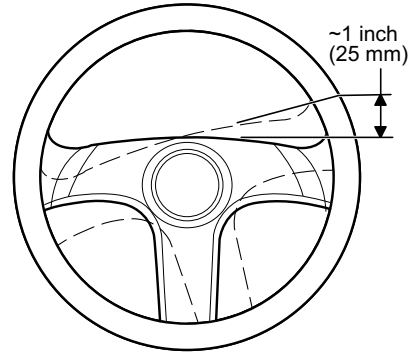

Fig. 32 Steering Wheel Play
1. Remove the nuts (2) that secure the steering rack ball joints (3) to the spindles. Refer to *Front Spindle Removal*.
2. Remove the nut (28) and bolt (29) securing the steering shaft yoke to the steering rack (Ref. Fig. 32).
1. Remove the nut (2) that secures the rack ball joint (3) to the spindle. See Spindle Removal .
2. Remove the rack end ball joint (3) from the steering rack by loosening the jam nut (4) and un-threading the ball joint off the rack (Ref. Fig. 32).